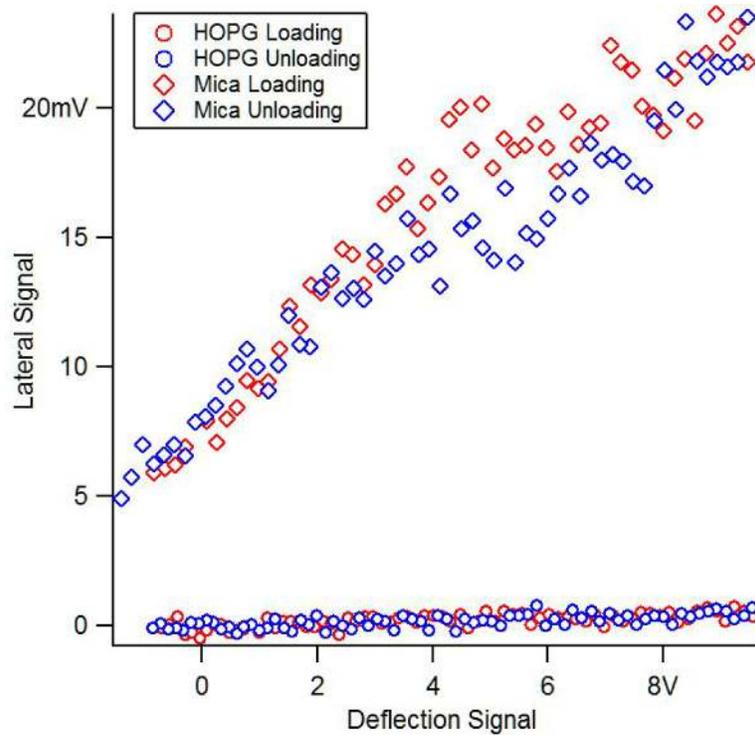

Figure 3.5.: Uncalibrated, relative comparison of the COF for HOPF and Mica
The **Friction-Load Map** is a plot of the friction (Lateral) force versus the normal load (Deflection). The slope of this curve, assuming that it is linear, is therefore the Coefficient of Friction (COF). This plot is generally linear at high loads but typically becomes less linear at low loads. It can better understand and interpret with the appropriate contact model (Hertz, JKR, DMT). Without explicitly calibrating the Deflection and Lateral Spring Constants and the respective Optical Leer Sensitivities, you can still plot the Lateral versus Normal signals (see Figure 3.5 on page 26) and make relative comparisons of changes in friction between tip and sample.
- Graph the **Lateral/Friction** data versus the **Deflection** data to get the finished Friction-Load Map, as seen in Figure 3.5 on page 26.